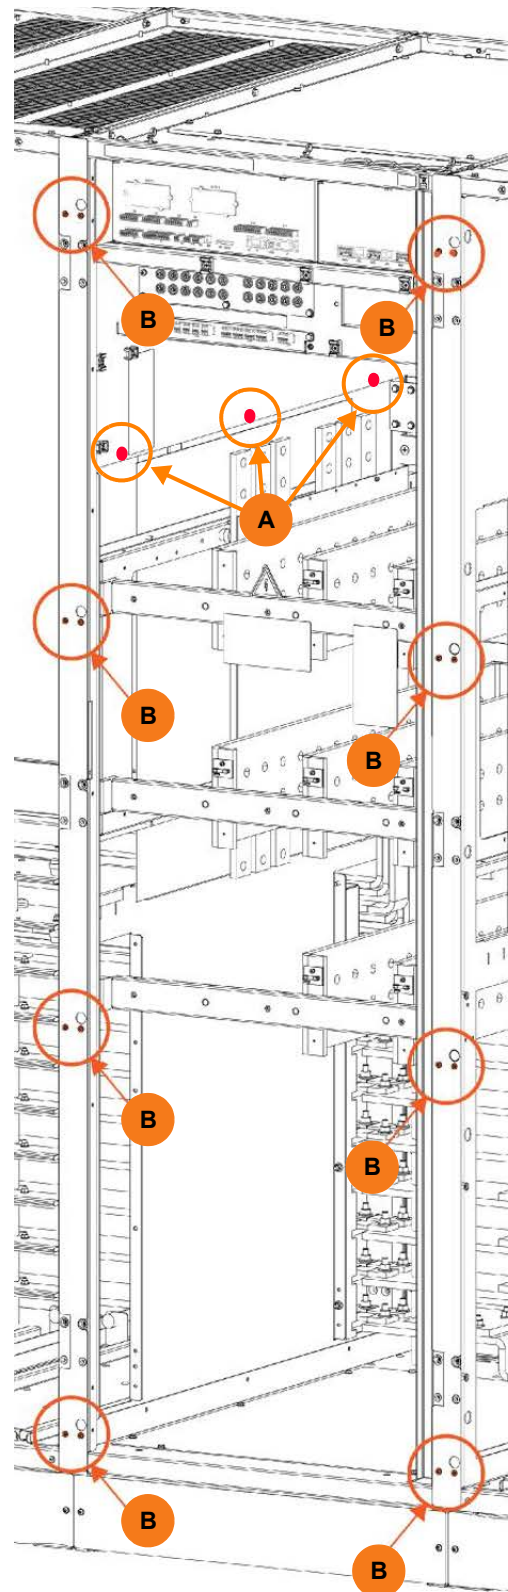

Figure 5.11 Connecting the frames
12. Fit three M5x12mm bolts (supplied) through Frame B to secure it to Frame A, as shown in Figure 5.11 (A).
13. Connect the front metal plate of the Frames A and B using eight M5x16mm torx screws, as shown in Figure 5.11 (C).